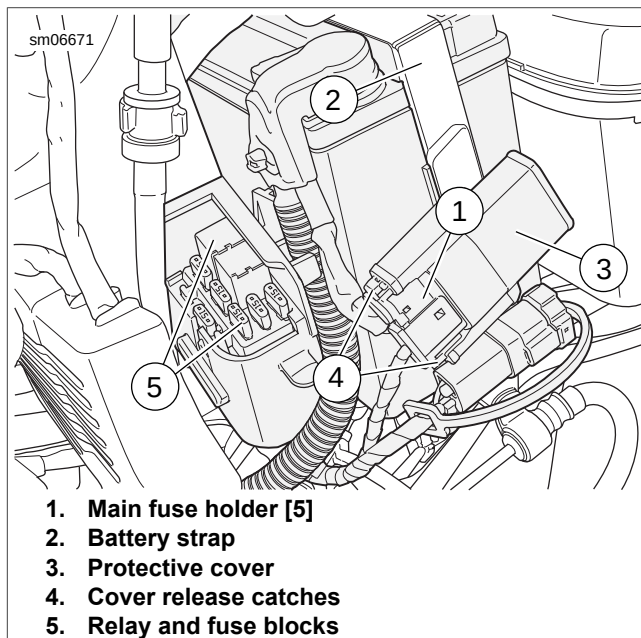

Figure 6-1. 30 A Main Fuse Location: All Models
2. See Figure 6-1. Squeeze cover release latches (4) together and pull fuse holder [5] (1) from protective cover (3).
3. See Figure 6-1. Install main fuse (1) by lining up spade terminals on fuse with sockets in fuse holder [5] (2). Press fuse firmly into holder.